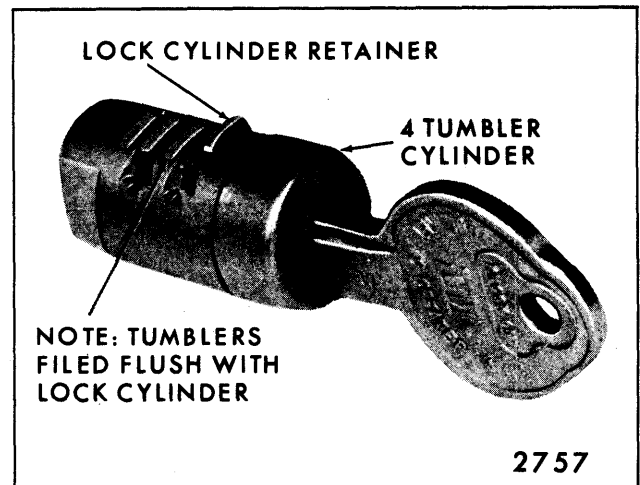

Fig. 1-8—Coded Glove Compartment Cylinder
4. Reverse lock cylinder position in vise and repeat step #3 for top of tumblers. See Figure 1-8.